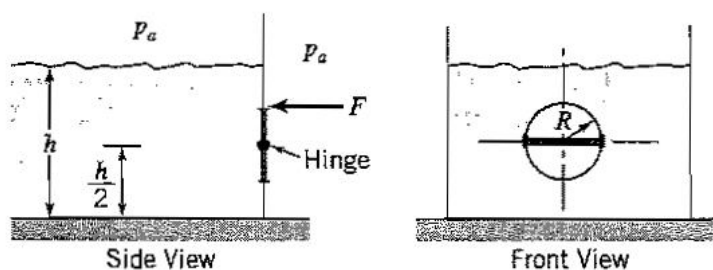

Figure P2.99
2.99 A circular gate of radius R is mounted halfway up a vertical dam face as shown in Figure P2.99. The dam is filled to a depth h with water, and the gate pivots without friction about a horizontal diameter.